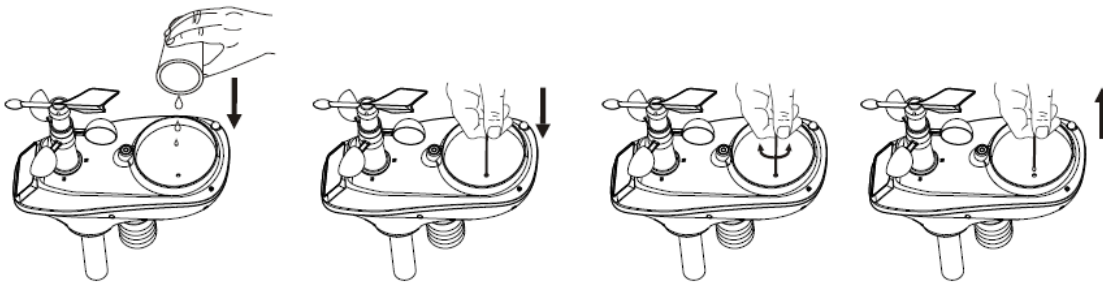

Figure 27
1. Clean the rain gauge once every 3 months as follows. Reference Figure 27.